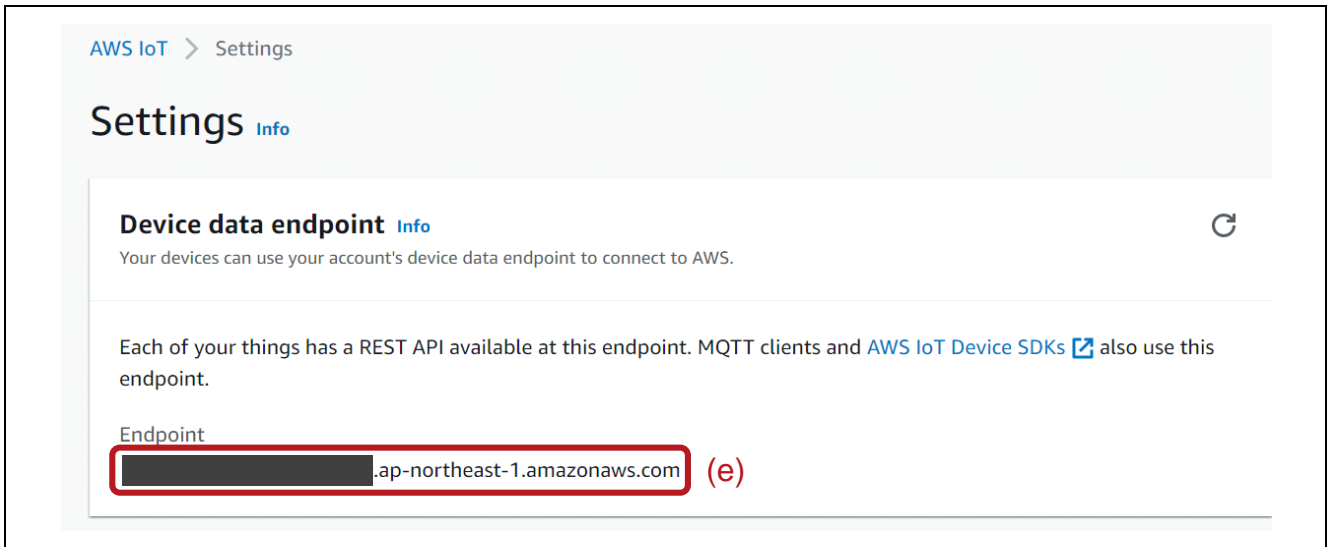

Figure 7-10 Check AWS Endpoint
- Select [Settings]. Make a note of the Endpoint. (Figure 7-10(e))
- #define clientcredentialMQTT\_BROKER\_ENDPOINT "Figure 7-10 (e) The Endpoint"